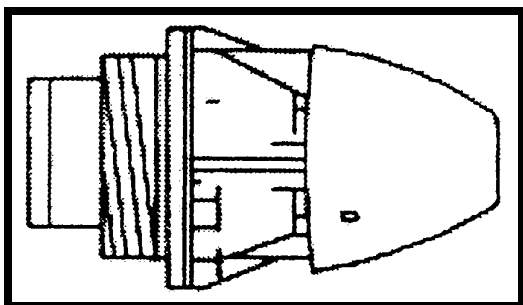
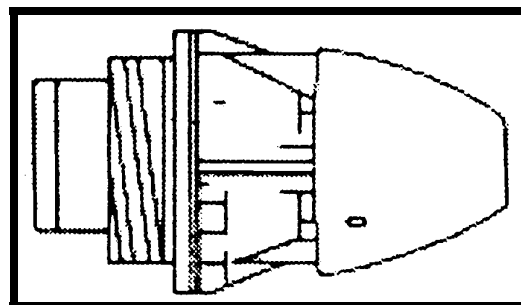

Figure 7-17. M734 multioption fuze.
Figure 7-18. M745 PD fuze.
c. M734 Multioption Fuze (Figure 7-17).
- (1) Functions: Proximity or impact.
- (2) Settings: PRX, NSB, IMP, or DLY.
- (3) Remarks: The fuze can be set by hand.
d. M745 PD Fuze (Figure 7-18).
- (1) Functions: Impact.
- (2) Settings: None.
- (3) Remarks: The fuze functions on impact with superquick action only. The markings (PRX, NSB, IIMP, and DLY) are dummy settings. Rotation of the fuze head does not alter the function mode.